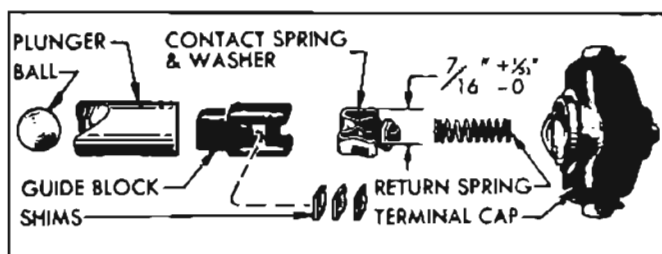

Figure 10-31—Carter Accelerator Vacuum Switch Parts
1. Disconnect wires from terminals. Hold down on switch terminal cap while removing hold down clip. Remove terminal cap and return spring, then lift out switch guide block with contact spring and shims. Do not lose timing shims and the spring washer on contact spring. See figure 10-31.
4. Check condition of contact spring and replace it if burned or otherwise damaged. The free width of spring across the points, with return spring washer in place is $\frac{7}{16}$ " + $\frac{1}{32}$ " - 0. See figure 10-31.